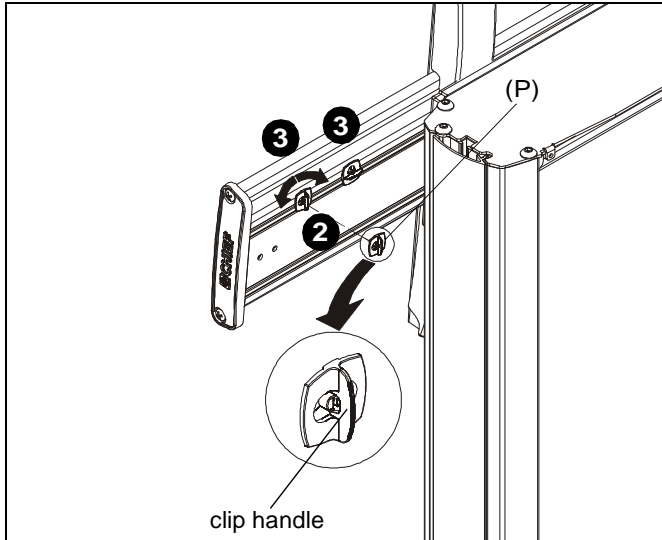

Figure 16
1. Place FCA clip (P) into groove on back of Fusion mount with clip handle in a vertical position. (See Figure 16)
2. Rotate FCA clip (P) 90° in either direction until clip handle is in a horizontal position. (See Figure 16)